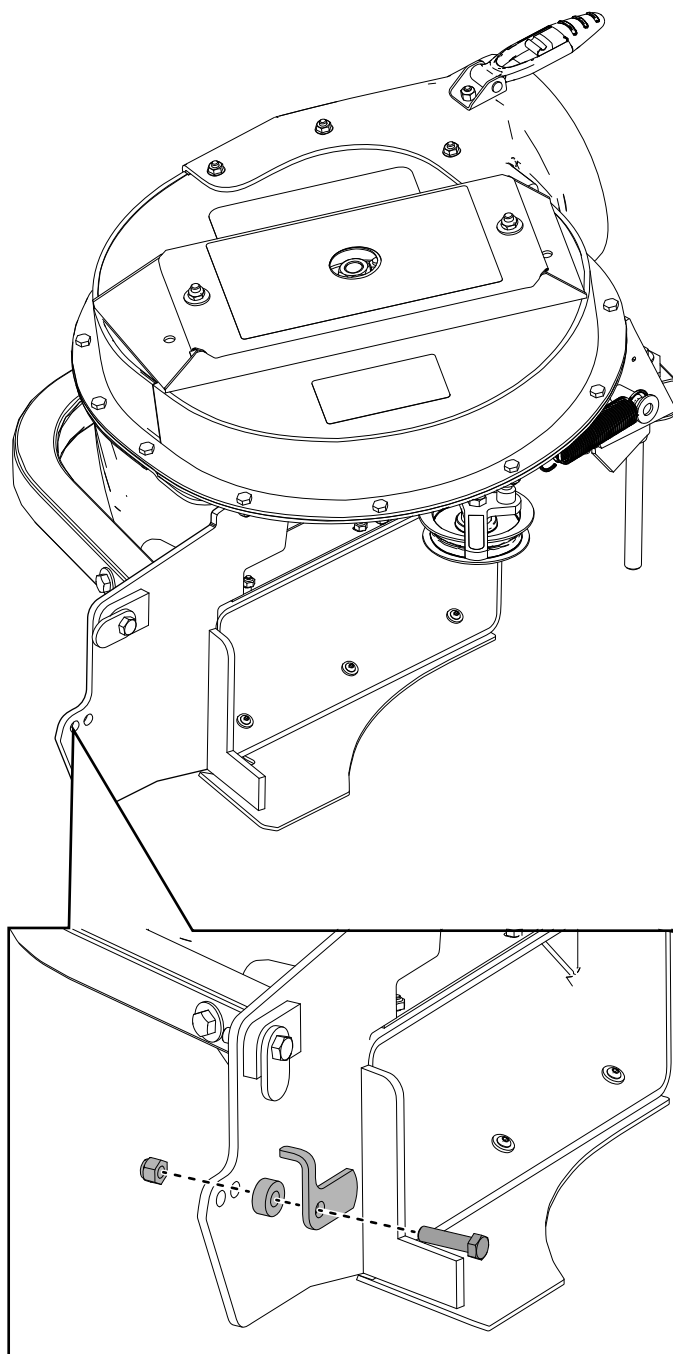

Figure 33
3. Secure the latch to the blower assembly using the hex-head bolt (3/8 x 1-1/2 inches), spacer, and locknut (3/8 inch) as shown in Figure 33 and Figure 34.